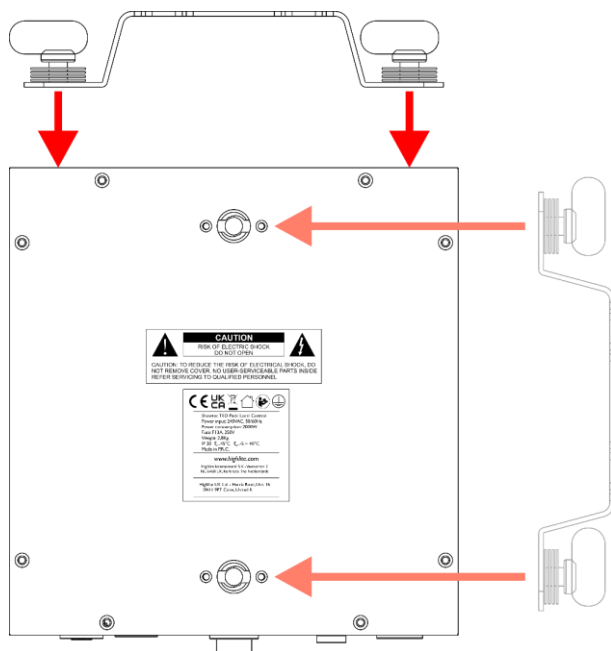

Fig. 08
- 01) Fasten the quick lock bracket, supplied with the device, on the **mounting holes for quick lock bracket (16) or (17)**. You can position the quick lock bracket on the top plate of the device or on the back plate of the device, as shown in Fig. 08.